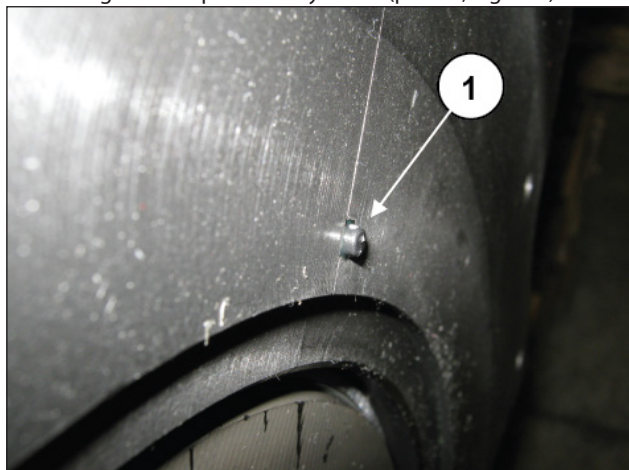

Fig. 115
Fit the radial seal ring into the PTO bearing cover (pos. ①, Fig. 115).